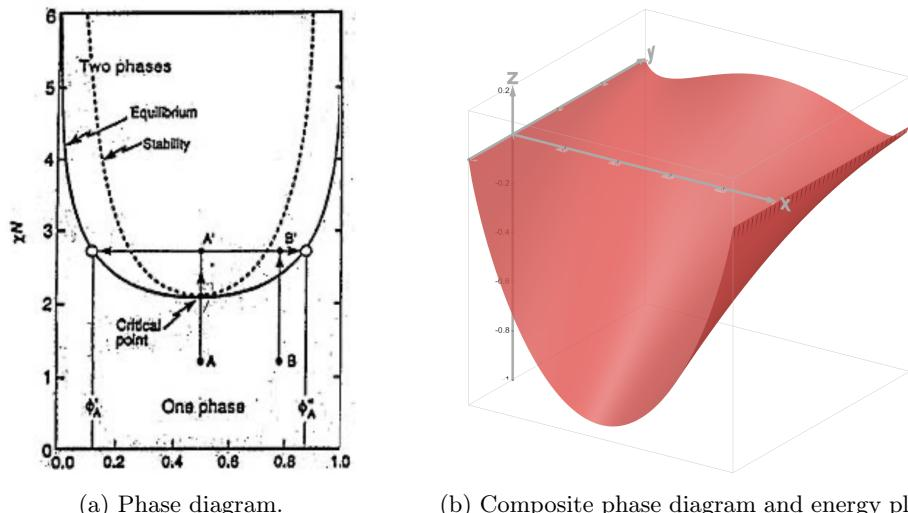

Figure 2.8: Example phase diagram and explanation.
- We are essentially thinking of  $\phi_2$  and  $\chi N$  as two independent variables that together define a system. A dependent variable of interest in this system is the mixing energy  $\Delta G_M$ . Therefore, a representation of the set of systems as a 2D graph in 3D space is warranted. Figure 2.7c plots one set of 2D cross sections of this surface (with color as a pseudo-third dimension), and Figure 2.8 plots other important contours of this surface.